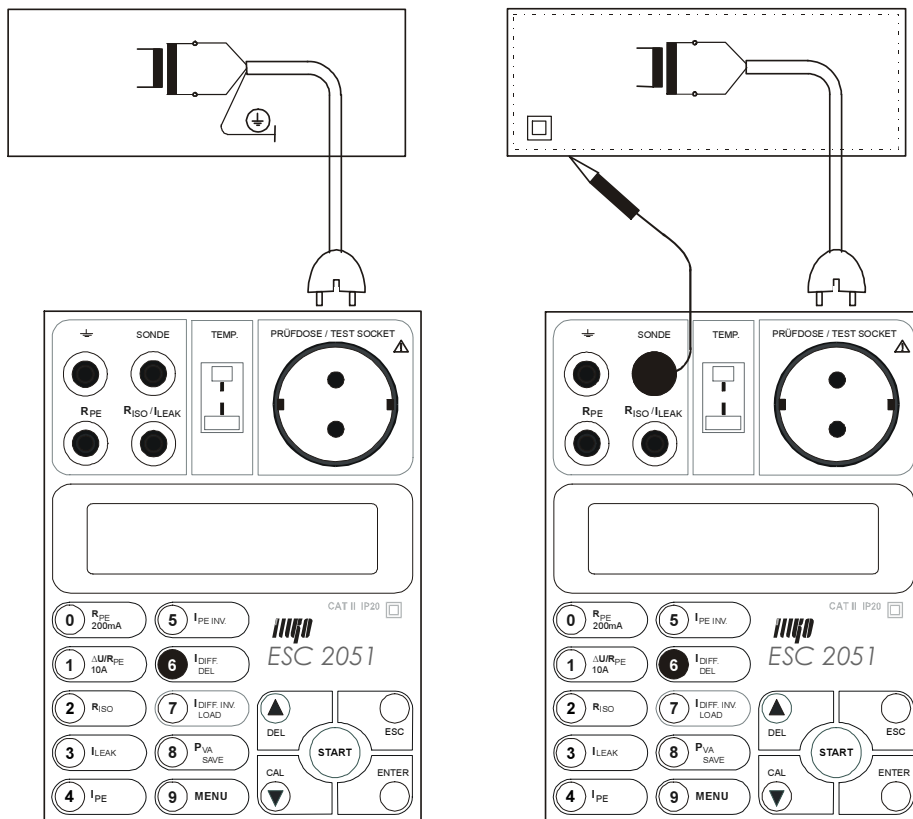

Fig. 12
- Plug in the mains cable of equipment under test to Test socket 1 (Fig. 12).
- Plug in the mains cable of equipment under test to Test socket 1 (Fig. 12)